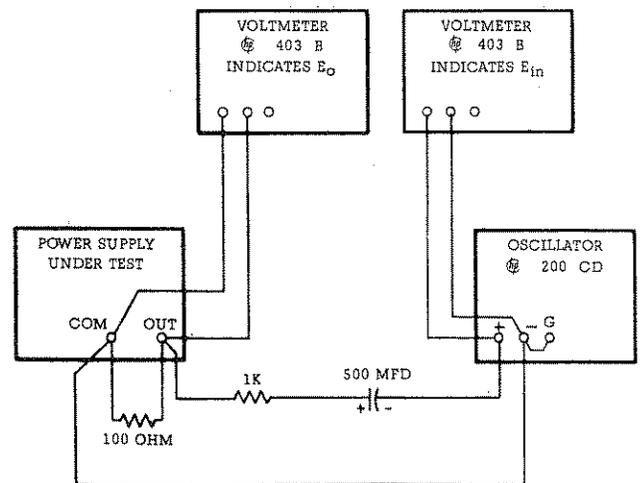

Figure 5-9. Output Impedance, Test Setup
a. Connect test setup shown in Figure 5-9.